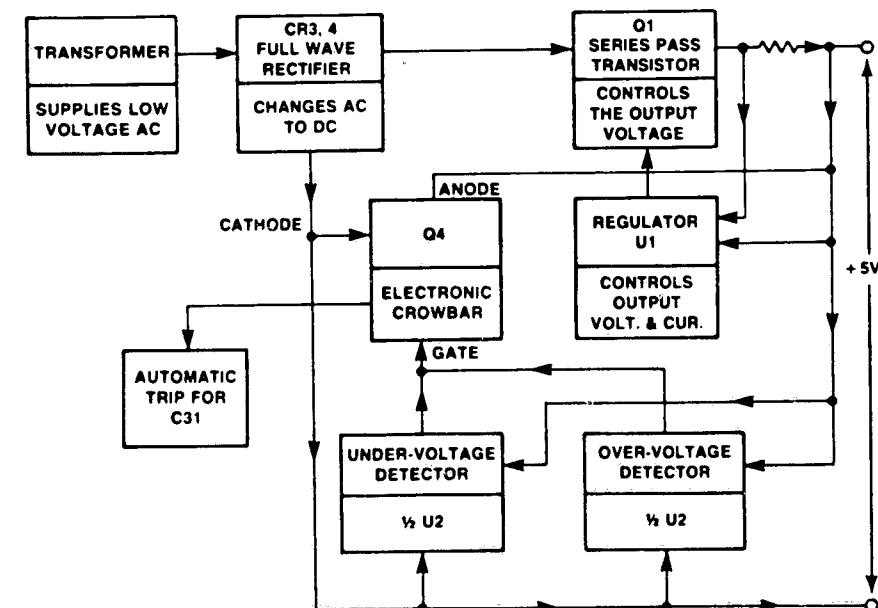

Figure 3-9. PRINTCON 5-VOLT POWER SUPPLY.
+5 volts direct current (VDC) at 2.5 amp voltage regulated with current limit and electronic crowbar over- and under-voltage protection (Figure 3-9).
1. For the 5 VDC power supply, voltage from the full wave rectifier (CR3 and CR4) is filtered by C2. This filter circuit provides voltage to series pass transistor Q1 which drops the output voltage to 5 volts. Regulating amplifier U1 turns Q1 on and off as it senses voltage fluctuations due to load and line variations. An electronic crowbar (SCR Q4) provides protection from unsafe voltage levels. Dual comparator U2 fires SCR Q4 when the voltage level is greater than 6.5 volts or less than 4.7 volts. When SCR Q4 fires, the 5 VDC output is clamped to approximately 2 VDC by CR10 and Q4. The primary circuit breaker is also tripped by CR9 and Q4. Potentiometer (pot) R2 permits adjustment of the 5 VDC foldback current limit setpoint. Clockwise rotation of R2 lowers the current limit setpoint. Pot R7 permits adjustment of the 5 VDC output voltage. Clockwise rotation of R7 lowers the output voltage. (Figure 3-9.)